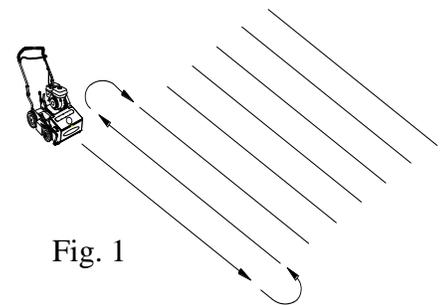
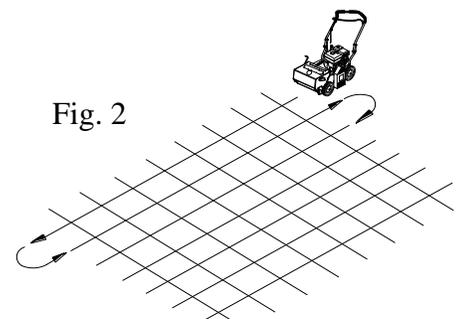

Fig. 1
Fig. 2
SLICING / OVERSEEDING: Mow the lawn to shorter than the normal cut height before starting (i.e. approximately 2" tall for fescue grass). For the best result, Slice/Overseed in criss-cross pattern (See Fig. 1 and See Fig 2).
4. Inspect blades for wear, and immediately replace any bent or cracked blades. Measure the overall length of the blade. (See fig. 1)